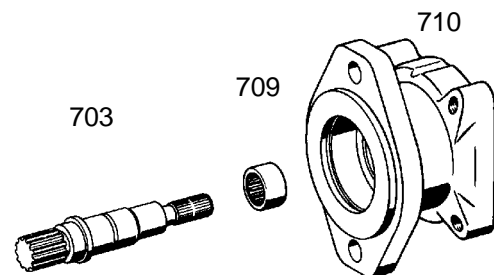

Fig. 15
If the shaft (703) is damaged in the vicinity of the needle sleeve (709) bearing surface remove the needle sleeve (709) (**Fig. 15**).